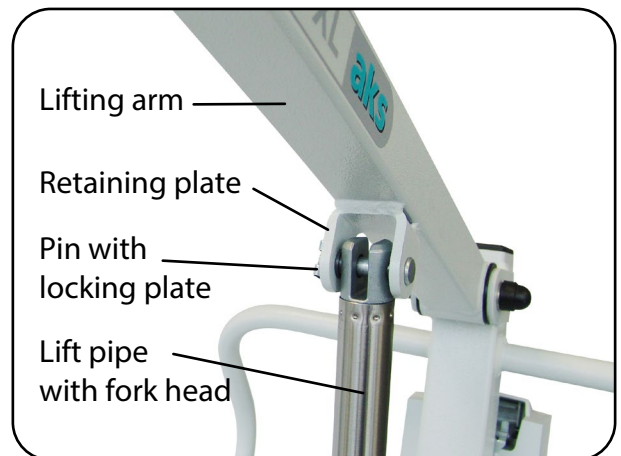

Fig. 6.2.06 - Assembly of the lift drive
7. Remove the bolt with the locking plate from the retaining plate on the lifting arm (Fig. 6.2.06).
8. Raise the lifting arm and fully align the hole of the lift pipe (fork head) with the hole of the retaining plate. Fasten the lift drive to the retaining plate of the lifting arm by inserting the pin (Fig. 6.2.06).
9. Secure the pin with the locking plate (Fig. 6.2.06). To do so, push the locking plate into the groove at the end of the pin. In doing so, the curved end of the plate slides over the chamfer of the pin.